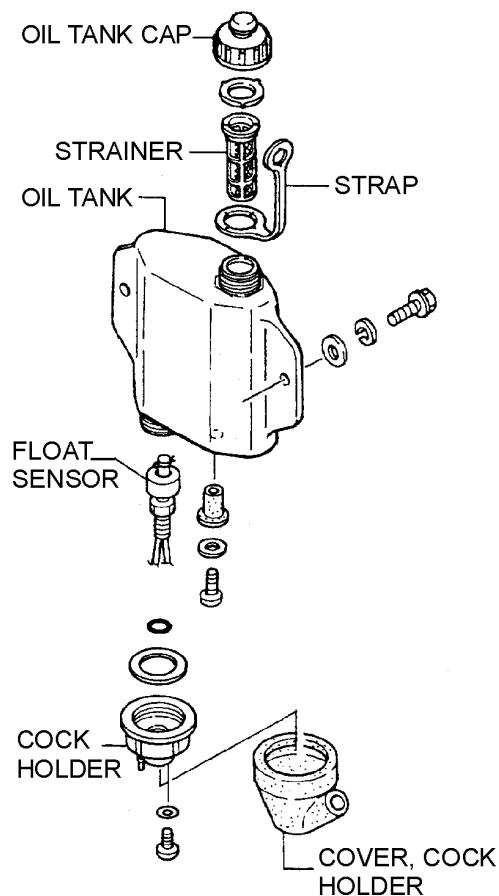

Figure 18. Oil Tank
- When cleaning the oil tank (Figure 18) perform the following procedure: